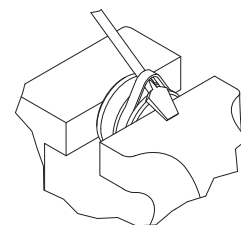

Figure 5-6, Remove Piston Seal
7. Carefully pry up on the piston seals using a blunt tip screw driver being careful not to scratch the seal grooves. Cut the seals to remove from the piston. (Figure 5-6)